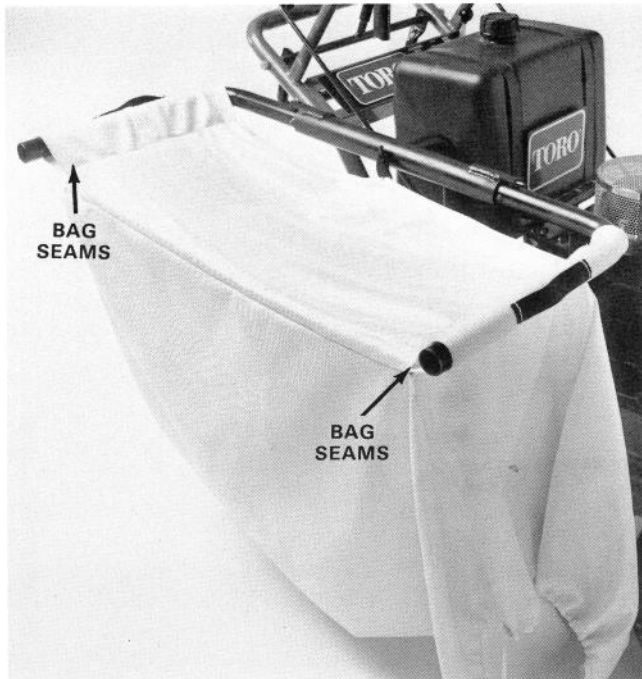

Figure 10
2. Slide bag seams onto bagger frame tubes so bag opening is positioned to front of mower (Fig.10).